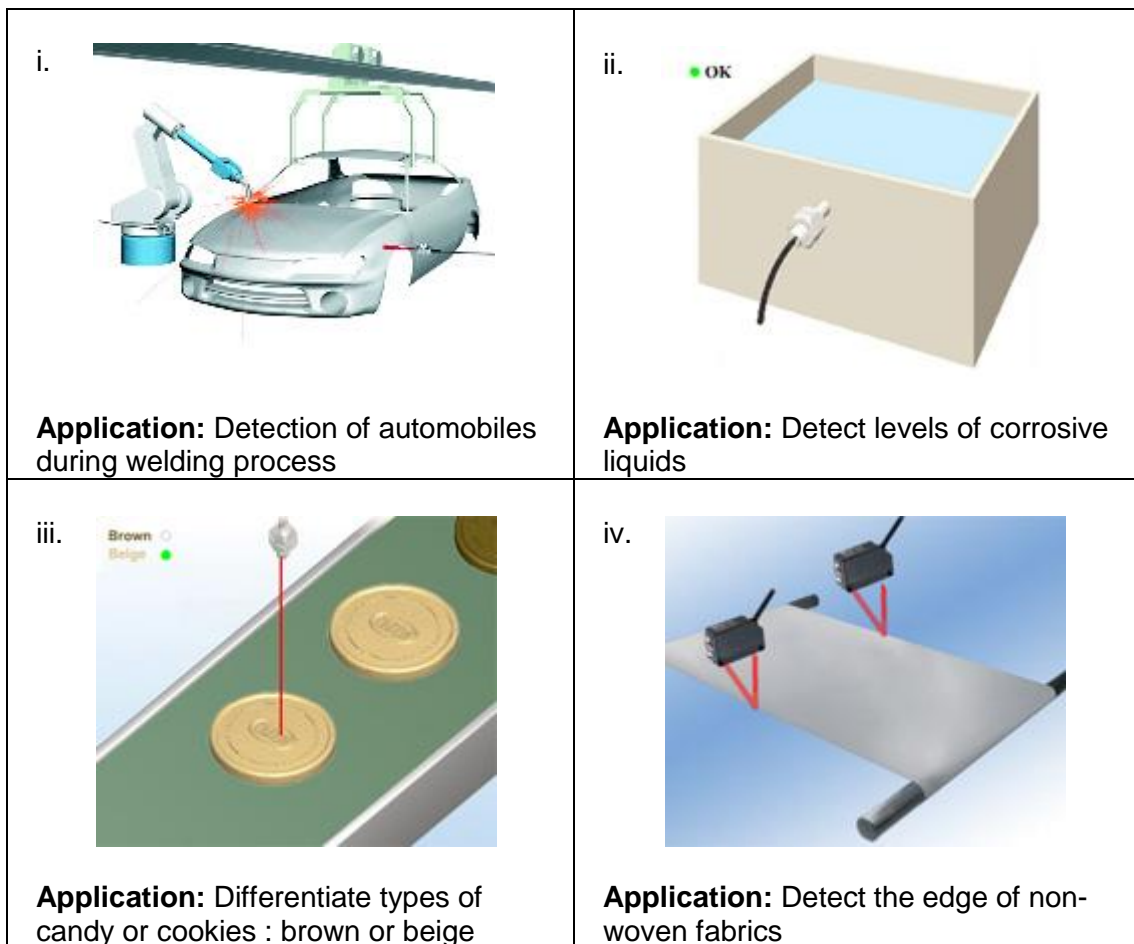

Figure 2: Sensor applications
- (a) List **three (3)** different form of photo-electric detector. (3 marks)
- (c) Suggest the most suitable sensor for each application in **Figure 2**.